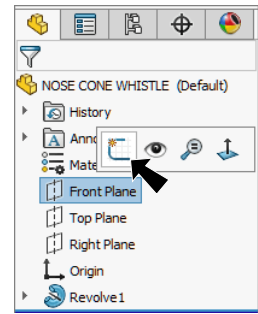

Fig. 10
Step 1. Click **Front Plane**  in the Feature Manager and click **Sketch** on the context toolbar, **Fig. 10**.